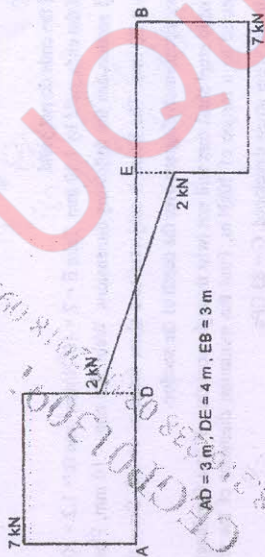

Fig. 4
- b) Draw the loading diagram & bending moment diagram from the given shear force diagram of a beam as shown in fig. 4 [7]